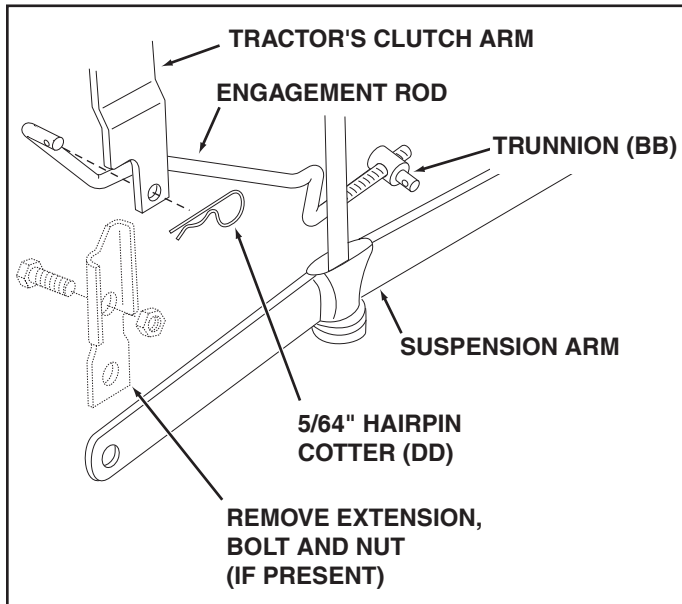

FIGURE 29
STEP 29: (SEE FIGURE 29)
- Screw the trunnion (BB) onto the end of the snow thrower engagement rod.